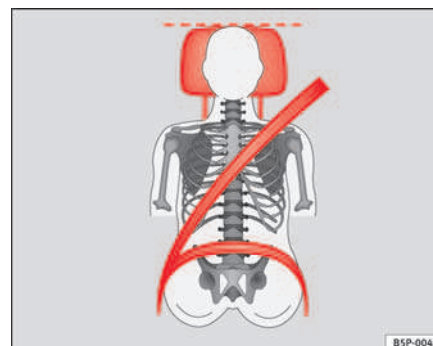

Fig. 13 Correct belt web and head restraint positions, viewed from front
- The shoulder part of the seat belt must lie on the centre of the shoulder, never across the neck. The seat belt must lie flat and snugly on the torso ⇒ page 25, fig. 13.